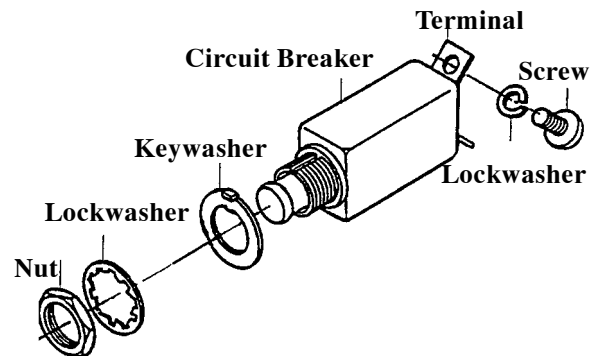

Figure 1. Typical Aircraft Circuit Breaker
14. THERMAL. Thermal circuit breakers generally operate dependent on the heating and subsequent deflection of a bimetallic thermostatic element due to the fault current (resistance heating). Some devices operate with the thermal expansion of a strand wire. Some devices may compensate for ambient temperatures. Thermal circuit breakers are generally not as affected by the start up surges and brief transients as many other devices. Figure 1 shows a typical circuit breaker.